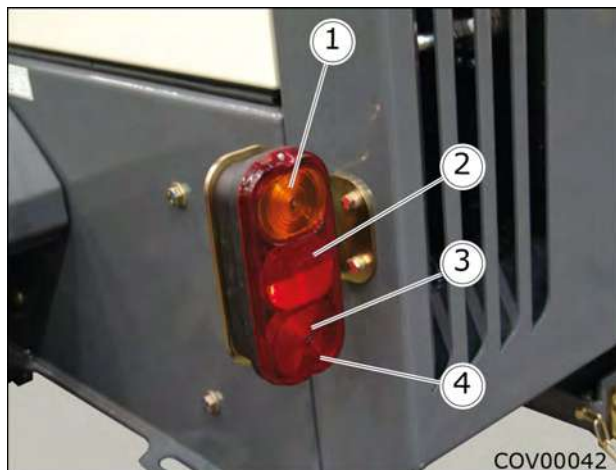

Figure 4.14 - Rear light cluster
Each rear light cluster, Figure 4.14, contains a rear light (4), brake light (3), direction indicator light (1) and reflector (2). The registration plate light is fitted separately.